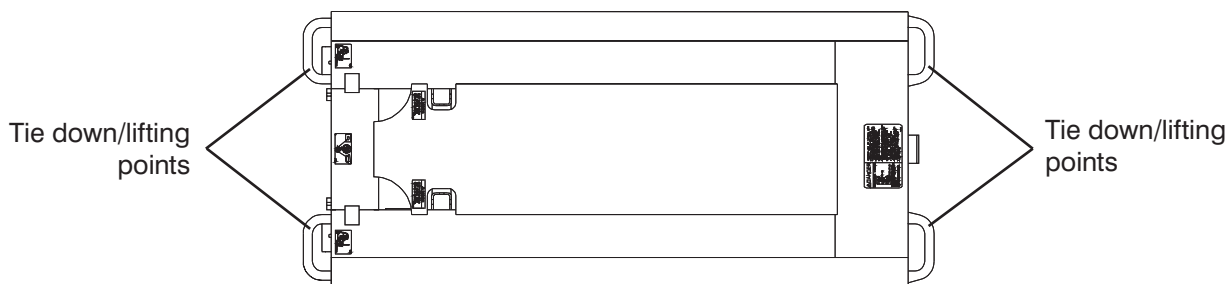

Figure 3-26. Tie Downs/Lifting Points
- The lifting/rigging must be attached to all four lifting points as illustrated in Figure 3-26.
When transporting, the MEWP must be secured to the truck or trailer deck. Tie downs are available as illustrated in Figure 3-26.